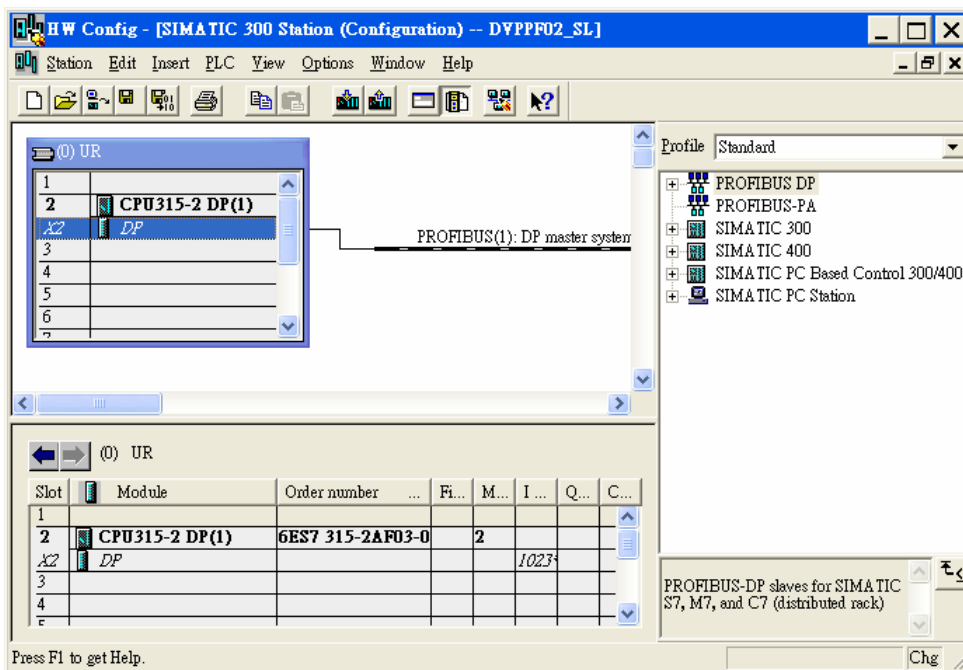

Figure 10-16
- After all the parameters are set, a PROFIBUS DP bus will be created after the UR window, as Figure 10-16.